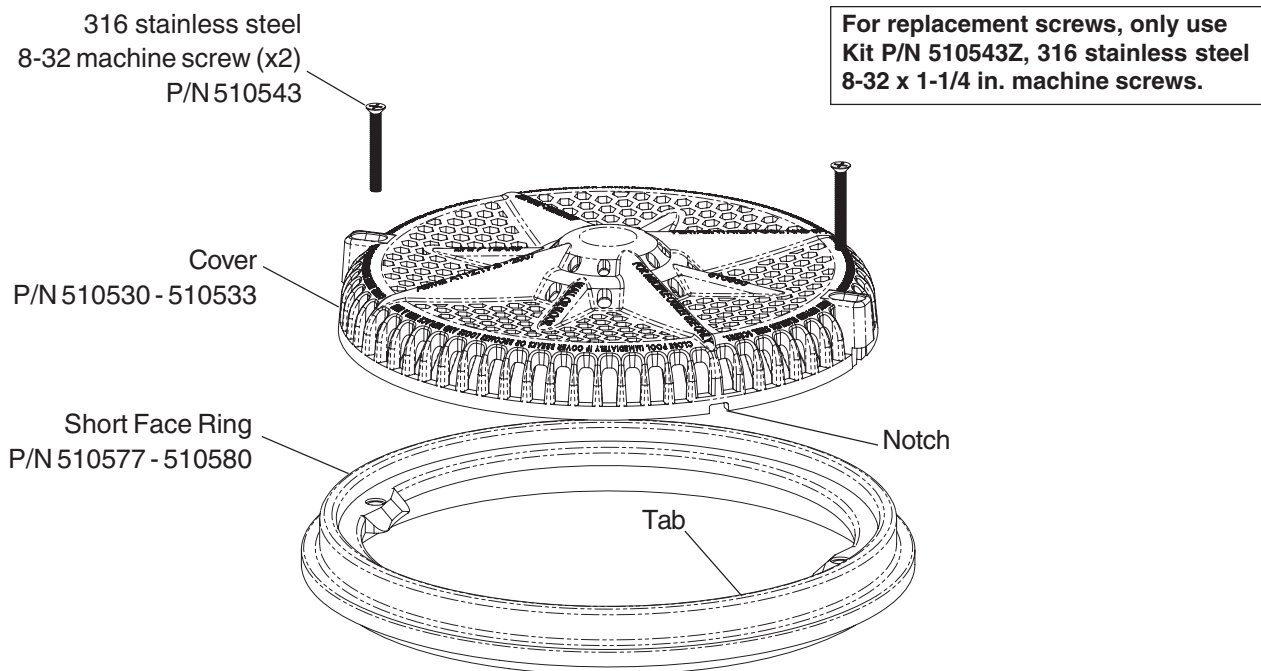

Figure 2
5. Mount the drain cover on top of the face ring/suction outlet (see Figure 2).
7. Install the two (2) 316 stainless steel 8-32 machine screws (provided) into the holes in the top of the cover. Using a No. 2 Philips head screwdriver, tighten each retaining screw to a **torque value of 10.00 (minimum) to 15.0 (maximum) in/lbs** to secure the cover. DO NOT OVER TIGHTEN THE SCREWS. DO NOT ASSEMBLE WITH POWER TOOLS.